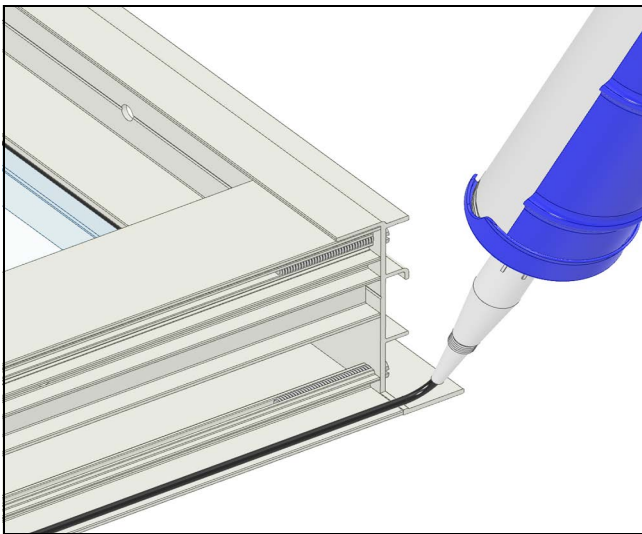

Figure 8
3. A window frame being installed with a sealing flange attached must be installed from the exterior. Apply a continuous bead of sealant to the back side of the flange on the interior surface. Alternatively, sealant may be applied to the framed opening at the point where the back side of the sealing flange will contact the perimeter seal. See Figure 8.